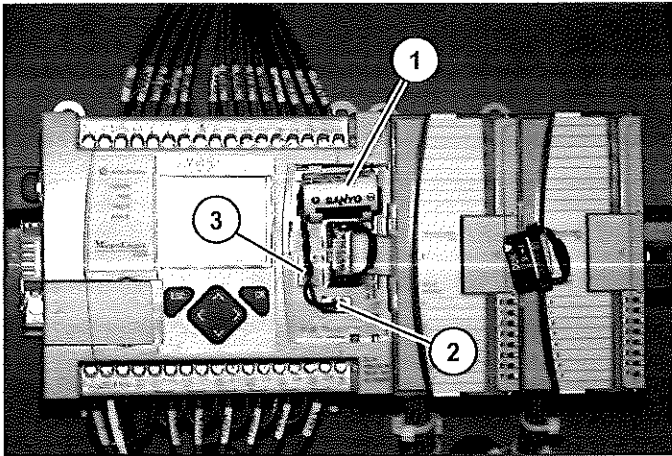

Figure 141
1. Insert battery (Item 1) (**Figure 141**) into replacement battery pocket with wires facing up.
2. Insert replacement battery wire connector into connector port (Item 2) (**Figure 141**).
3. Secure battery wires under wire latch (Item 3) (**Figure 141**).